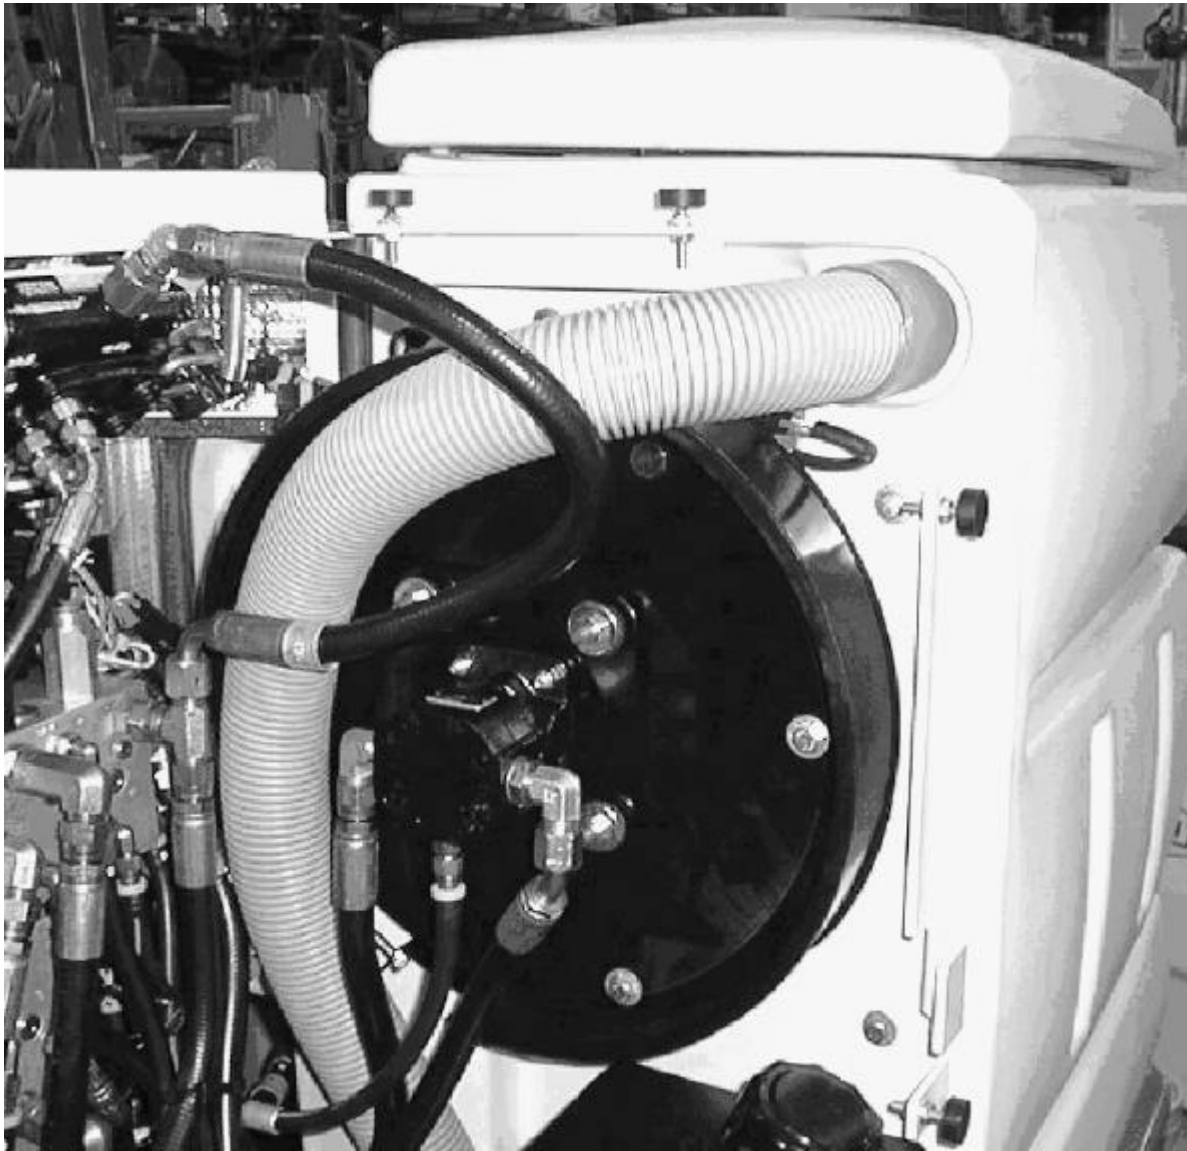

FIG. 1 Scrubbing Vacuum Fan Group
(Refer to FIG. 1, 2 and 3)
1. Locate scrubbing vacuum fan group on the front end of recovery tank. (Refer to FIG.1 and 2)
2. Remove scrubbing vacuum fan group and set all hardware aside. (Refer to FIG. 1 and 2)
9. Remount scrubbing vacuum fan group to new recovery tank (1) using all set aside vacuum fan group hardware. (Refer to FIG. 1 and 2)